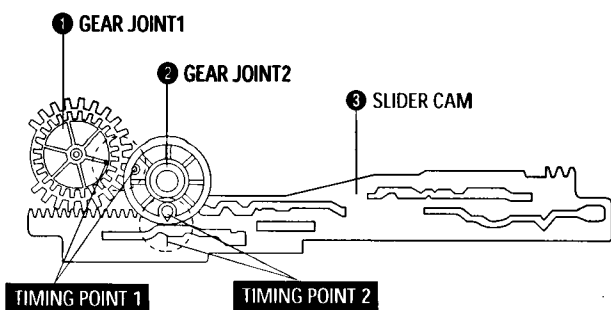

Fig. 1-12 Gear Joint 1,2 Assembly
- 1) Be sure to align dot mark of Gear Joint 1 ① with dot mark of Gear Joint 2 ② as shown Fig 1-12. (Refer to Timing point1)
- 2) Confirm the Timing Point 2 of the Gear Joint 2 ② and Slider Cam ③.